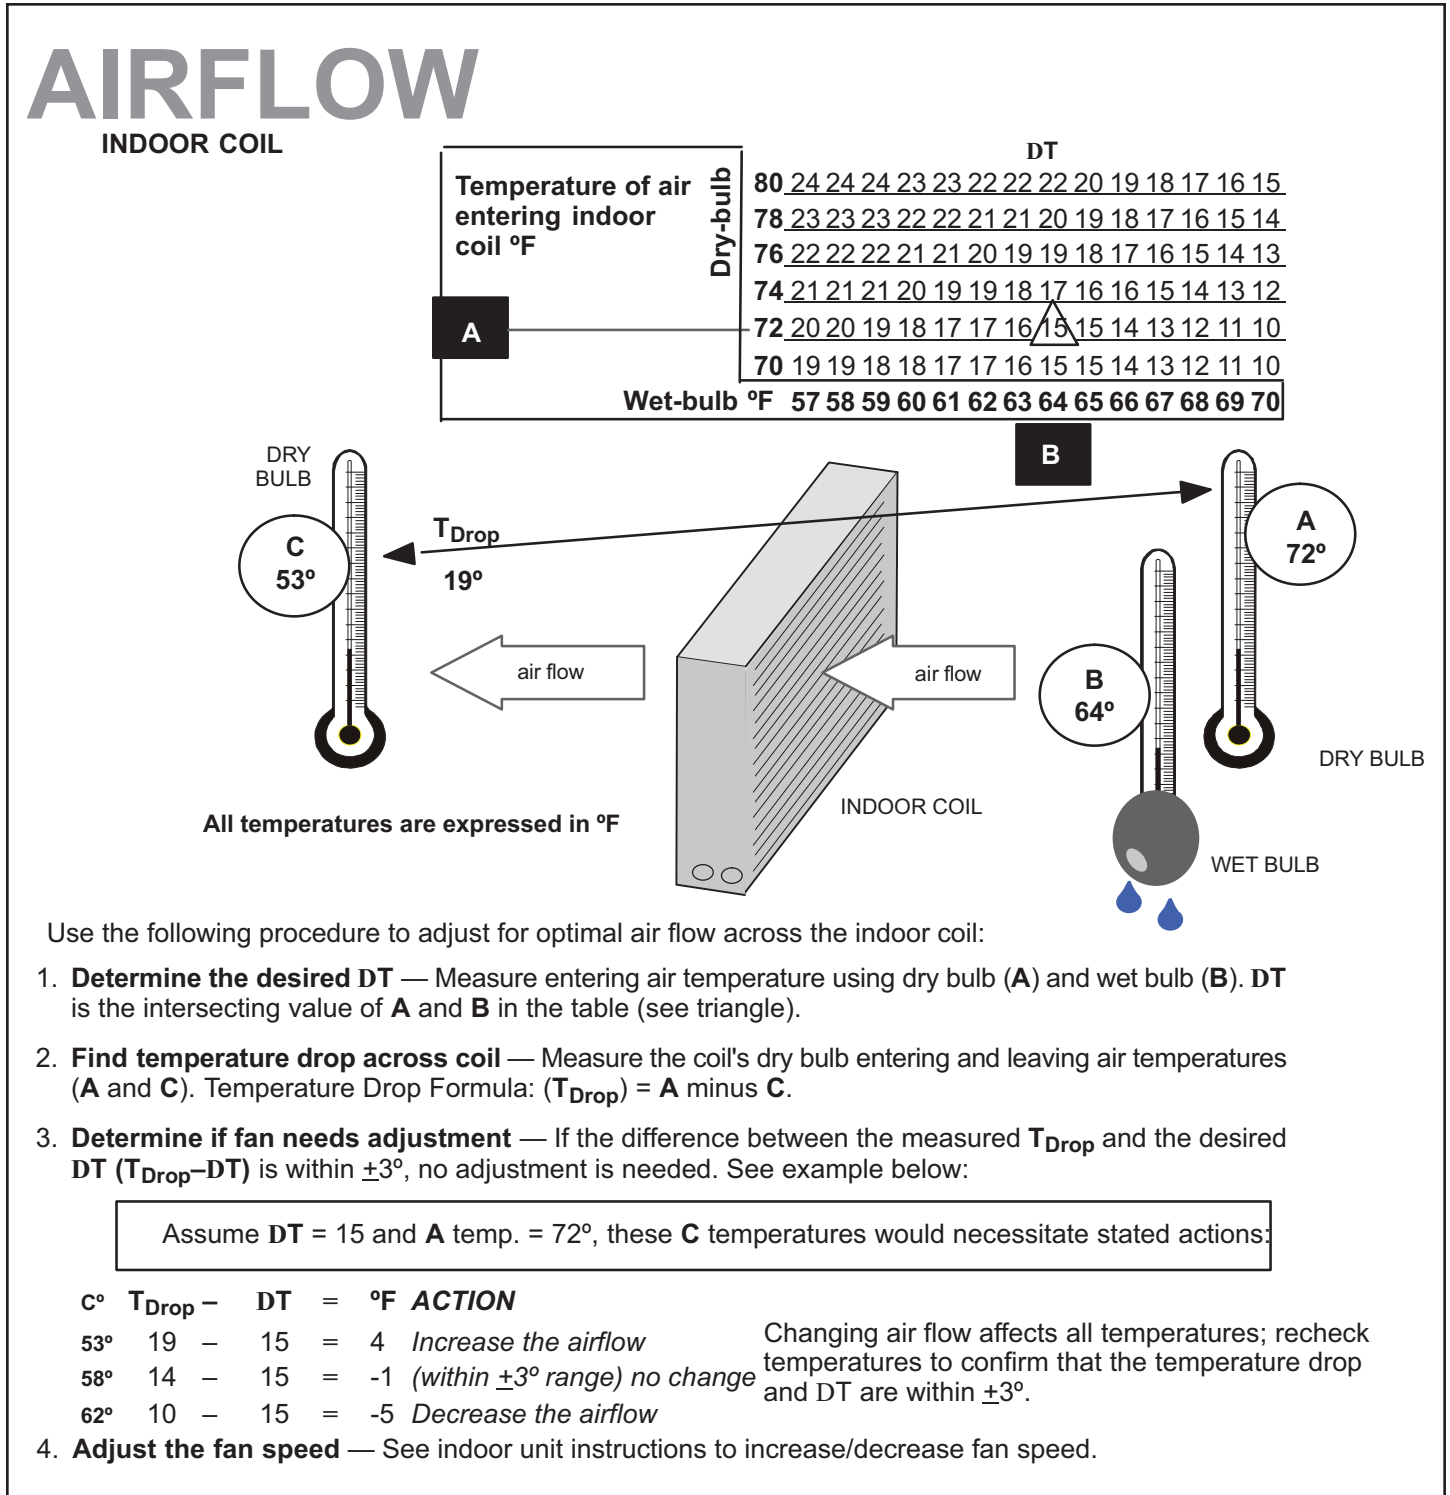

Figure 13. Checking Indoor Airflow over Evaporator Coil using Delta-T Chart
Check airflow using the Delta-T (DT) process using the illustration in Figure 13.